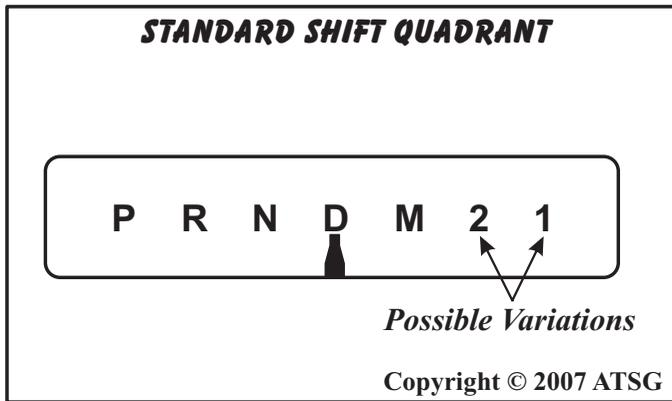

Figure 2
The transmission shift quadrants vary by model. There may be four to seven different positions shown on the shift quadrants, as shown in Figure 2 and in Figure 3.
*Some* vehicles are equipped with a shift quadrant that allow manual range selection. For example, "M" manual range and/or manual range "2" or "1", as shown in Figure 2. These ranges can be used for conditions where it may be desirable to control the selection of gear ratios. These conditions include trailer towing, driving on hilly terrain, and are also helpful for engine braking when descending slight grades.